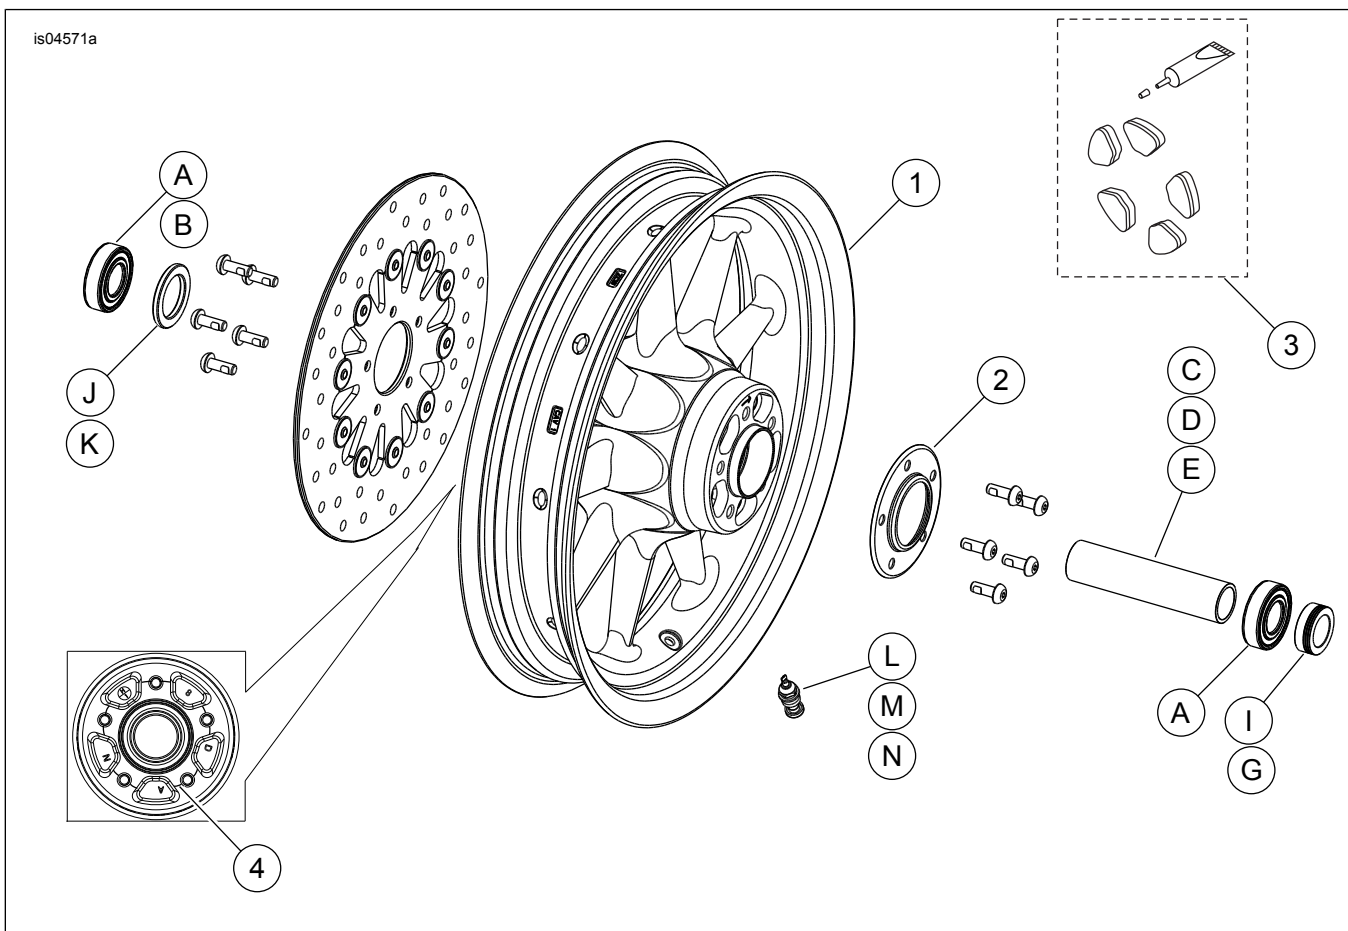

Figure 1. Service Manual: Front Nine-Spoke Wheels
See Figure 1 and Service Parts Tables.
2. See Figure 1. Install valve stem assembly (L, M or N) on wheel. Refer to TIRES in service manual.